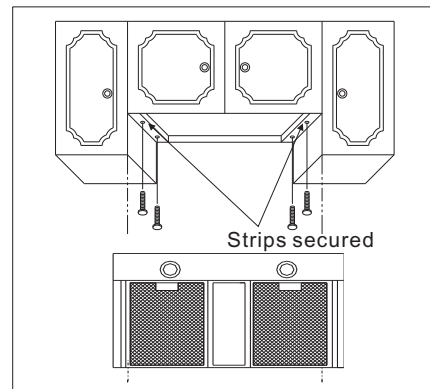

Fig.7
- c. Position the strips on the cabinet bottom and screw the strips securely to the cabinet (Fig.7)
- a. The six keyhole mounting slots for the hood. Mark these onto the bottom of the cabinet; or, if the cabinet bottom is recessed. Onto the wood strips (Fig.7)
- C. Screw the four 1" wood screws (for mounting the hood) into the exact center of the arrow and into the keyhole mounting slots marked on the cabinet bottom (for flush installations), or marked on the 1"x2" wood strips (for recessed cabinet installation) (Fig.7)